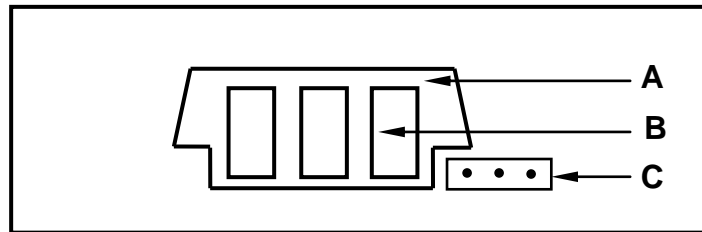

FIGURE 6.3
- 6.3 FIGURE 6.3 below shows material used in a specific concrete floor construction.